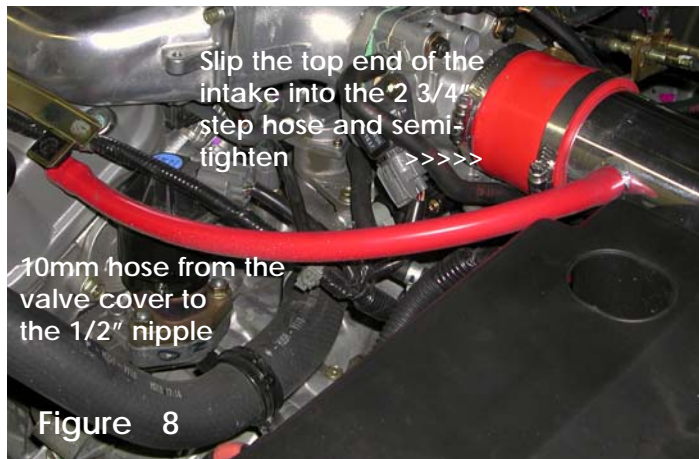

Figure 8
5. Slip the nipple end of the cold air intake into the 3" end of the step hose and semi-tighten. Align the welded bracket on the intake to the vibra-mount and use the m6 nut and washer to hold the intake in place. See figures 8 and 9